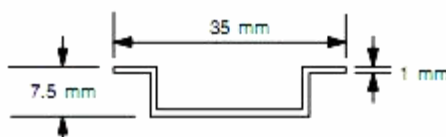

Figure 2 DIN rail
① The design of the module adopts natural convection cooling method. At least 25 mm of space must be reserved above and below the device to ensure normal heat dissipation. The distance between the front panel and the back panel should also be maintained at least 75 mm.
② The module can be easily installed on a standard DIN rail or the back panel of the control cabinet. The rail specification is TS35/7.5, as shown in Figure 2.